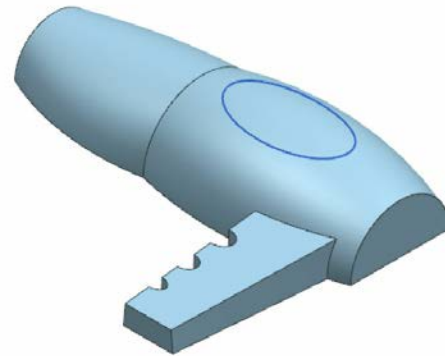

Figure 11-109 Resultant projected curve
4. Next, choose the **Project Curve** tool from the **Curve** gallery of the **Create** group and project the newly created sketch on the base surface; the model after projecting the sketch is displayed, as shown in Figure 11-109.